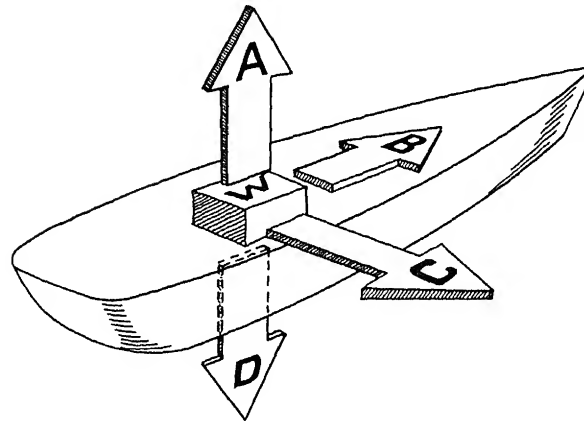

Figure 2E.
- 2-40. In what direction, if any, will the center of gravity move if weight W in figure 2E is moved in direction B?
In what direction must weight W in figure 2E be moved to produce an inclining moment?